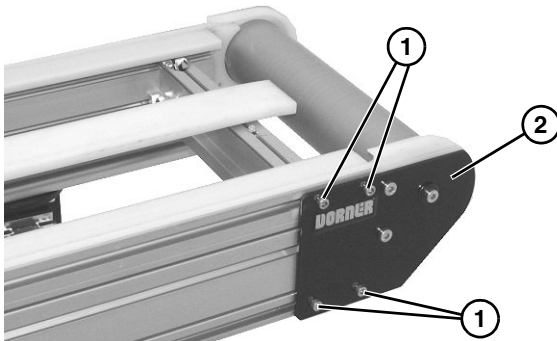

Figure 41
2. On one side of conveyor, loosen the four socket head screws (**Figure 41, item 1**). Repeat on opposite side.
3. Remove idler tail assembly (**Figure 41, item 2**).